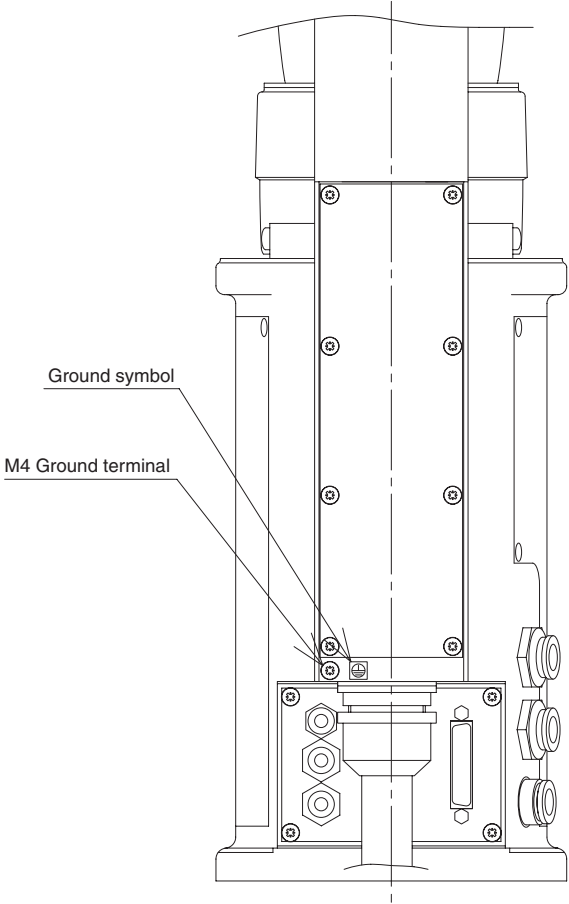

Fig. 3-7 Ground terminal
- 1) Provide a terminal marked “PE” for the protective conductor of the entire system and connect it to an external protective conductor. In addition, securely connect the ground terminal on the robot pedestal to the same protective conductor. (See Fig. 3-7 for example of the R6YXC500.)